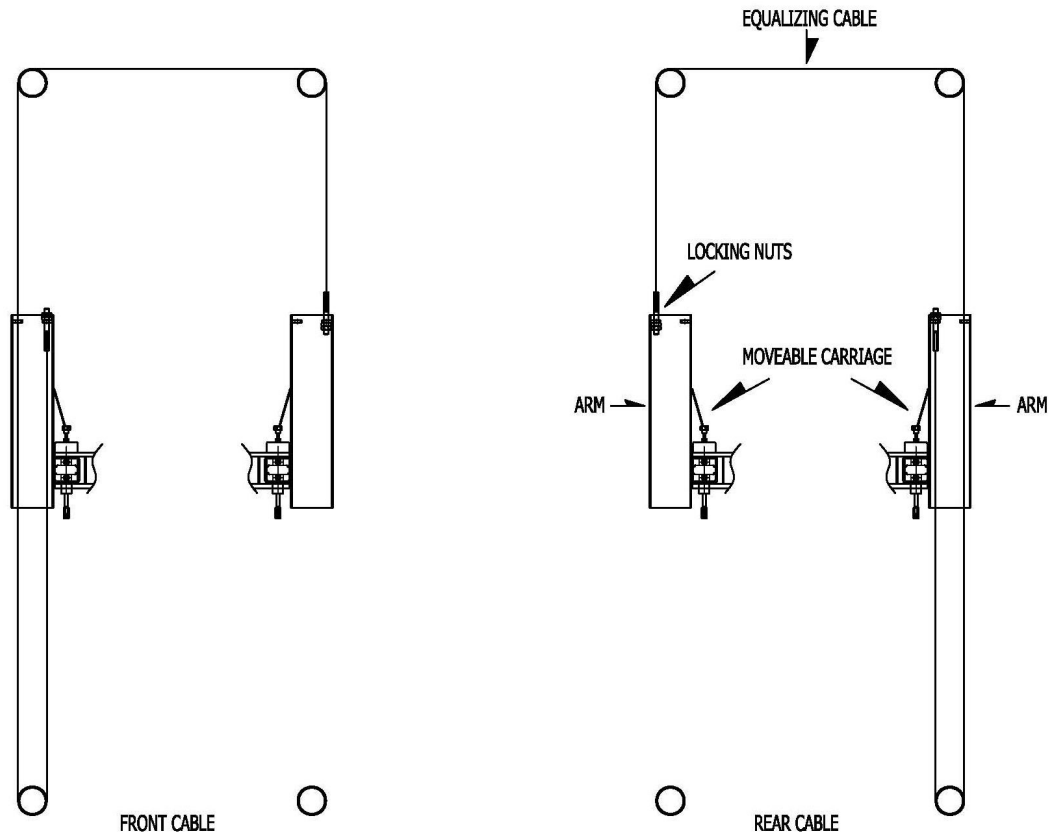

Fig. 29
4.4.2 LIFT CABLE ASSEMBLY Fig. 29